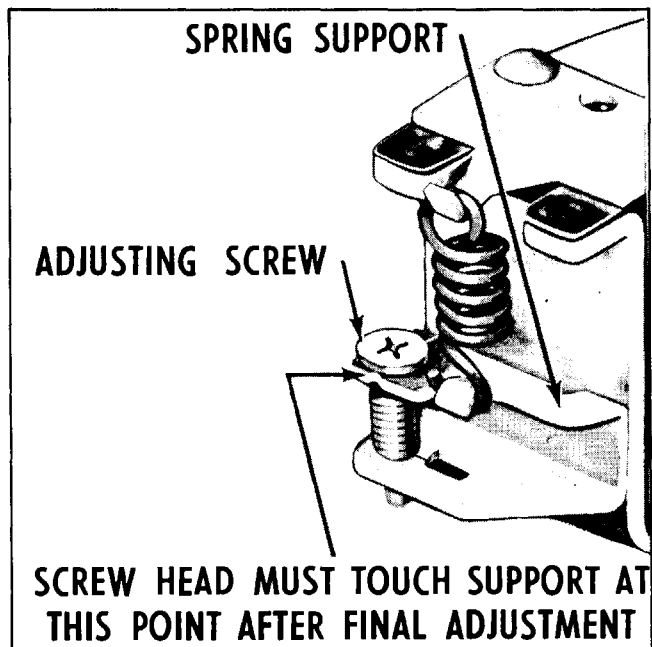

Fig. 12-9 Proper Relationship of Spring Support and Adjusting Screw
When the need for changing the voltage regulator setting has been established, proceed as follows: Remove the regulator cover and turn adjusting screw clockwise to raise the setting, counterclockwise to lower the setting. Before taking the new reading after each adjustment, replace the regulator cover as quickly as possible and cycle the generator. **CAUTION:** Final adjustment should always be made by increasing spring tension to assure contact between the screw head and spring support (Fig. 12-9). Sometimes the spring support does not follow the screw head as spring tension is decreased, and it will be necessary to bend the spring support up to insure contact between the screw head and spring support. Failure of the voltage regulator unit to "hold" its setting usually results from (1) setting or checking the voltage regulator at other than operating temperature, and (2) the screw head not touching the spring support after final adjustment is completed.